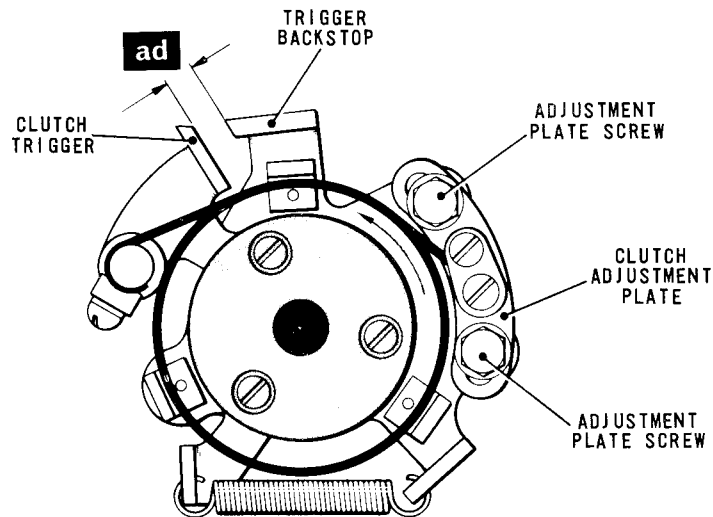

Fig. 4.25 TRANSLATOR CLUTCH—REAR VIEW
- 28.1 With the translator camshaft in the rest position and the retention lever roller located in its recess in the retention cam, lift the translator clutch abutment so that the clutch trigger, Fig.4.25, is released. Turn the machine by hand until the clearance between the trigger and its backstop can be measured easily and check that this clearance is now .093 - .110 in. (dimension 'ad').